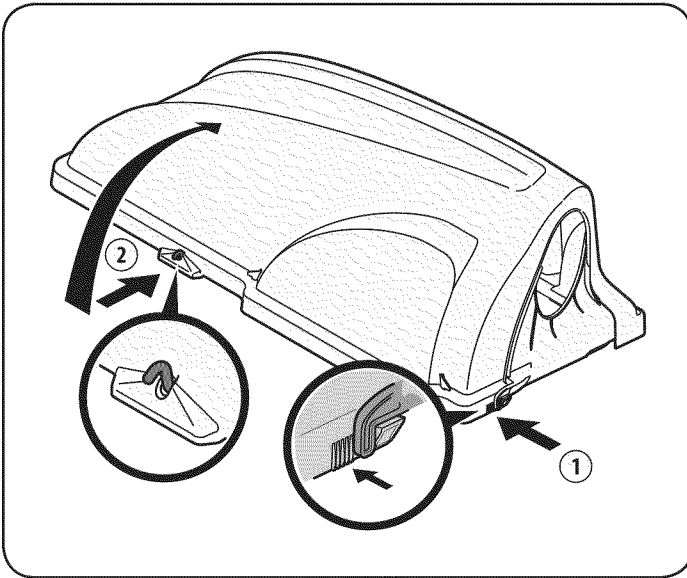

Figure 28
2. Open grass catcher cover by pushing in on the rear, right-side tab with your right-hand, as seen in 1 of Fig. 28, and lifting with your left-hand in the rear center, 2.